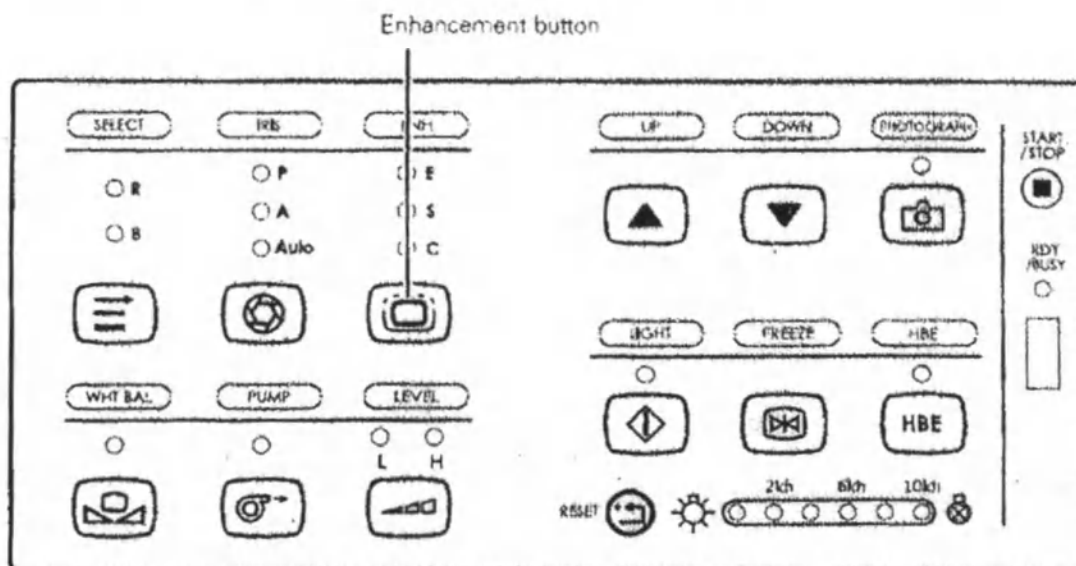

Рис. 13.
The device allows you to perform image enhancement. Enhancement is a machining technique for electronically sharpening edges (E), structure (S), or a combination of them (C) for an image. 1. Press and hold the improvement button on the front panel or press the F3 key on the keyboard to select the mode (Figure 13). 2. After selecting the improvement mode (E, S or C), briefly press the improvement button on the front panel or press the F4 key on the keyboard to select the level of improvement (0, 1, 2 or 3). The current mode and level are displayed on the screen.